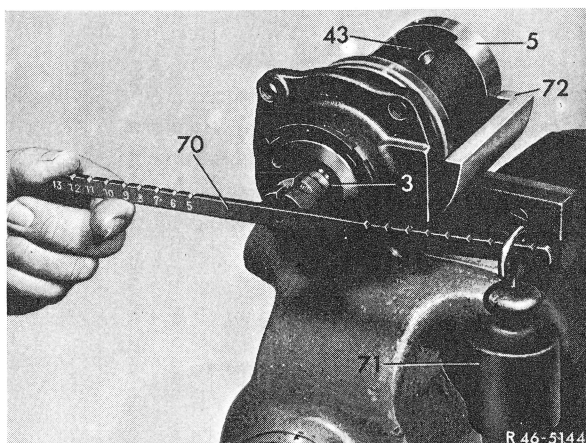

Fig. 19
19 Position measuring fixture (70) on splining of steering worm (3) and measure friction torque of ball circuit (Fig. 19).